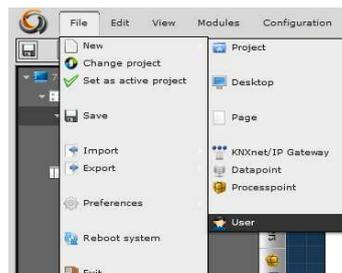

Abbildung 40: User configuration view
Figure 40 shows the clearance from the right and left margin as well as from the top and bottom in pixels. The value "0" means that the clearance between the frame and the margin is 0 pixels. If you delete the values (0) as in figure 40, you can enter the width and height individually.